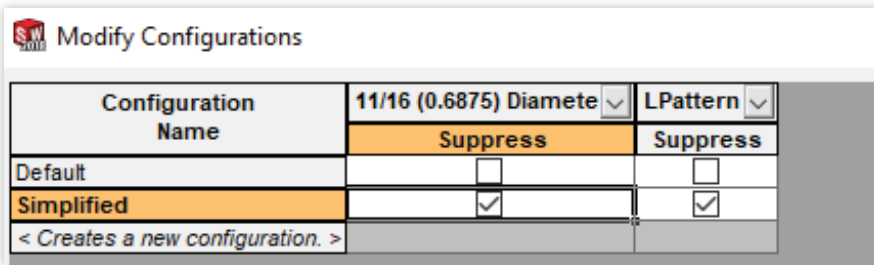

Fig. 12
- Highlight the features to suppress in the browser. Right click and select **Configure Feature**. See Fig. 12.